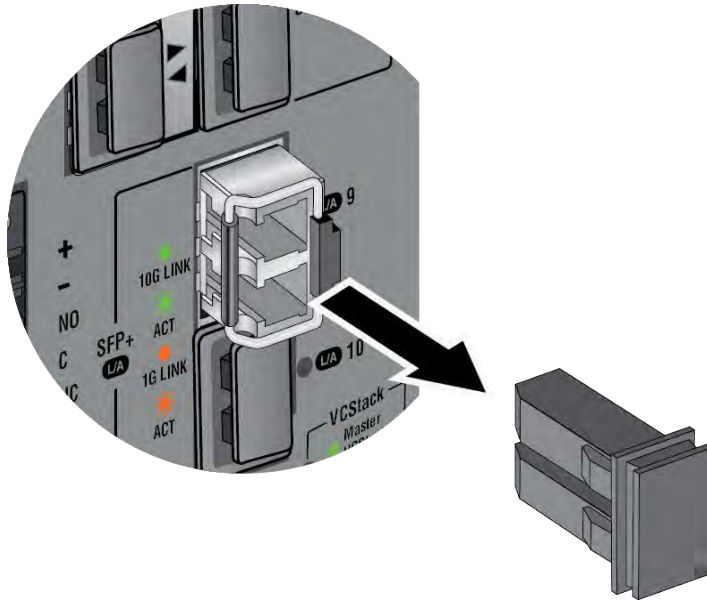

Figure 41. Removing the Dust Cover from a Transceiver
4. Remove the dust cover from the transceiver. Refer to Figure 41.